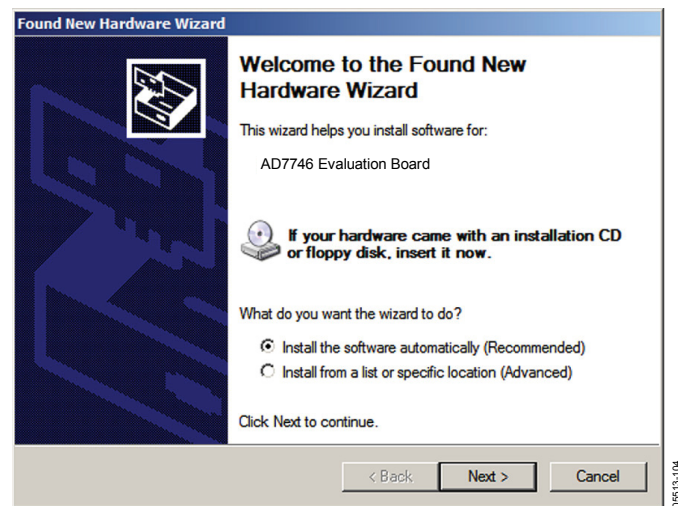

Figure 4. Found New Hardware Wizard
3. Connect the AD7746 evaluation board to the USB connector of the PC using the USB cable included in the evaluation kit. The POWER LED on the evaluation board turns on, and the **Found New Hardware Wizard** starts automatically on the PC (see Figure 4).